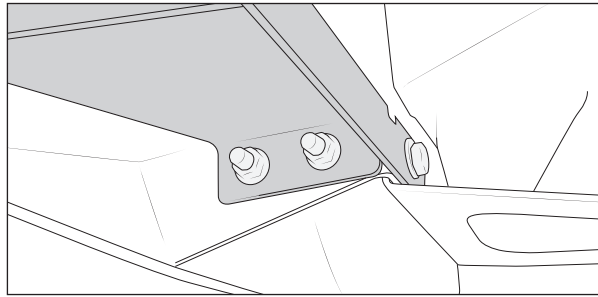

Figure 33
- Lift winch plate into place on bumper. $\frac{1}{2}$ " bolts in fairlead bracket will pass through holes in fairlead plate on bumper. Tabs on winch plate gussets will lock into square cutouts in fairlead plate on bumper. Reinstall bolts from previous step to attach winch plate to bumper brackets. Install M12 hardware to sides of winch plate to attach it to bumper brackets (2 per side). Torque all M12 hardware to 70 ft-lb. (fig. 33).